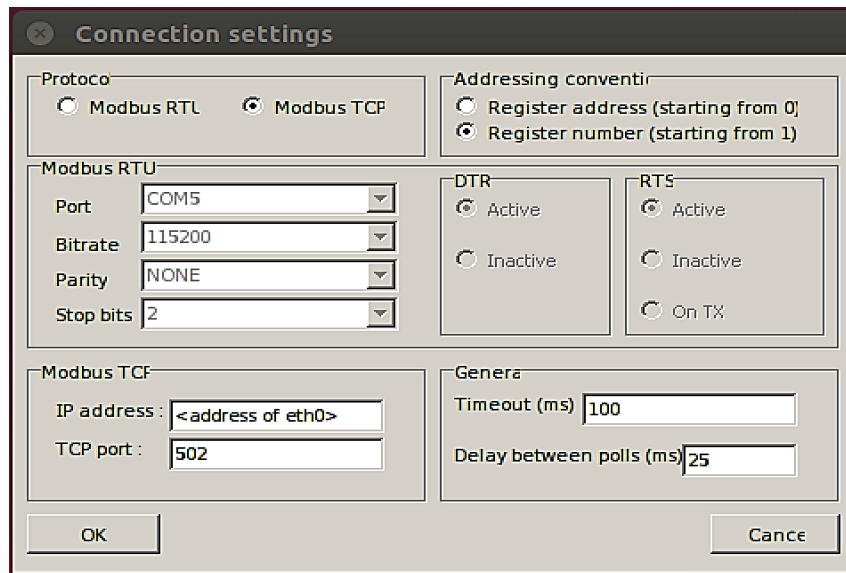

Figure 2. Radzio! configuration
6. Select Modbus TCP and enter the IP address of the `eth0` interface and TCP port number 502 as shown in Figure 2. → Click OK.